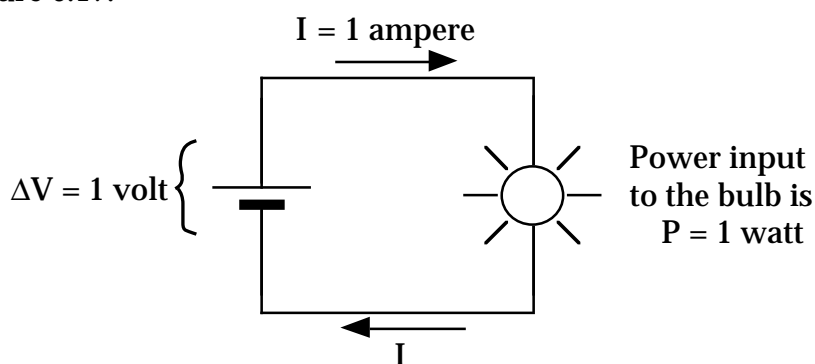
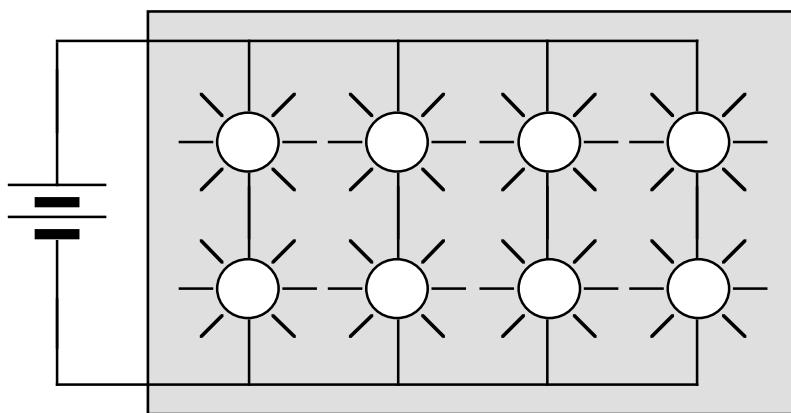

Figure 6.17
Figure 6.18a
Figure 6.17 shows a “unit” cell connected to a “unit” bulb. Chemical activity in this imaginary cell maintains a 1 volt pressure difference in its terminals, and the resistance of this special bulb allows the cell to drive a 1 ampere flow rate through it. The symbol P is used for amount of power input. Therefore, $P = 1$ watt for a unit bulb lit by a unit cell, illustrated in Figure 6.17.
We can use the definition of the watt provided in Figure 6.17 to determine the power input to a box that contains any combination of “unit” bulbs. Figures 6.18a and 6.18b show how “unit” cells in series can provide 1 volt across each bulb in a variety of different combinations that let different battery voltages drive different currents through different boxes.
Two shaded boxes with different combinations of “unit” bulbs are shown in Figures 6.18a and 6.18b. Here’s how to determine magnitudes of the variables:
Imagine an arrowtail with one shaft drawn next to each bulb in Figures 6.18a and 6.18b, representing a 1 ampere flow rate through each bulb.
1. On Figures 6.18a and 6.18b, draw arrowtails to represent current into and out of the shaded boxes. Draw one shaft in the arrowtail for each ampere.
2. Near each shaded box in Figures 6.18a and 6.18b, write
3. Look at the numbers you placed on Figures 6.18a and 6.18b. Write an equation that describes the pattern of relationship between P , I , and ΔV .